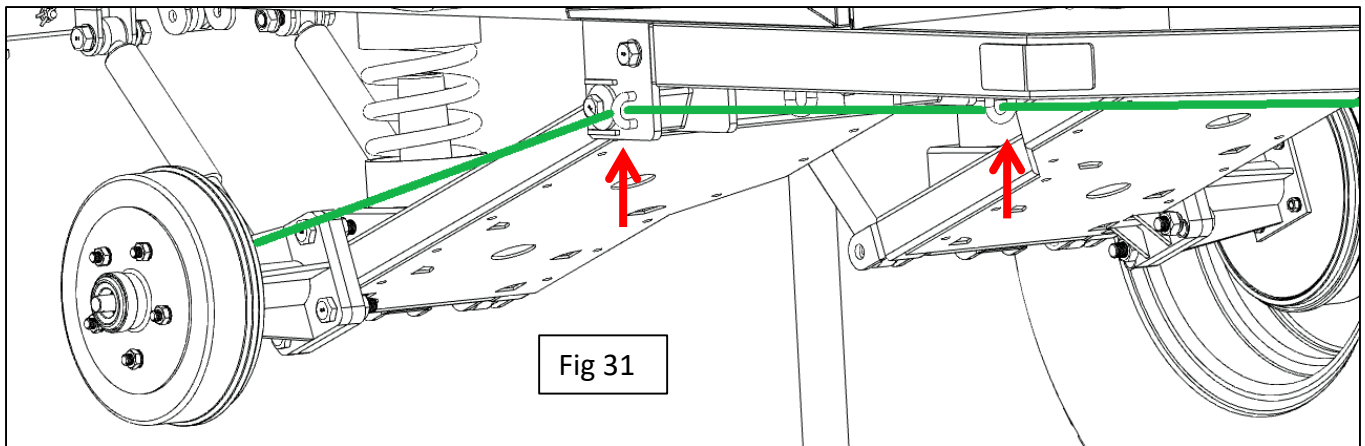

Fig 31
29. Make sure parking brake lever is down all the way and adjustment screw is loosened. You will want the adjustment screw to be able to mostly tighten the cable while still having some adjustability to loosen the cable. Make sure adjustment mechanism can move freely on parking brake attachment. Route parking brake cable thru the guides in the tongue and the frame, keeping the cables as high as possible. End of cable will go thru the loop on the brake actuator arm on the brake drum, then it will loop back on itself. Pull the cable as tight as possible and secure with wire rope clips. The U-bolt side will go on the dead end of the clip and the saddle will go on the live end. Fig 31, Green line indicates where the brake cable will lay. Fig 32 shows correct orientation of the u-bolt and saddle. It is easiest to secure one side then remove slack and secure the opposite side. Use adjuster to take excess slack out of brake line and lock up the brakes when the handle is about 3-4 clicks from the last slot